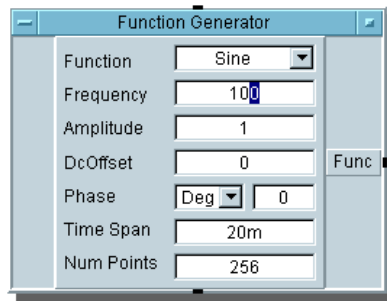

Figure 1-28. Highlighting a Frequency Field Number
7. Click the **Frequency** field to the right of the value 100, and while holding the mouse button down, move the mouse to the left to highlight the last 0, as shown in Figure 1-28.